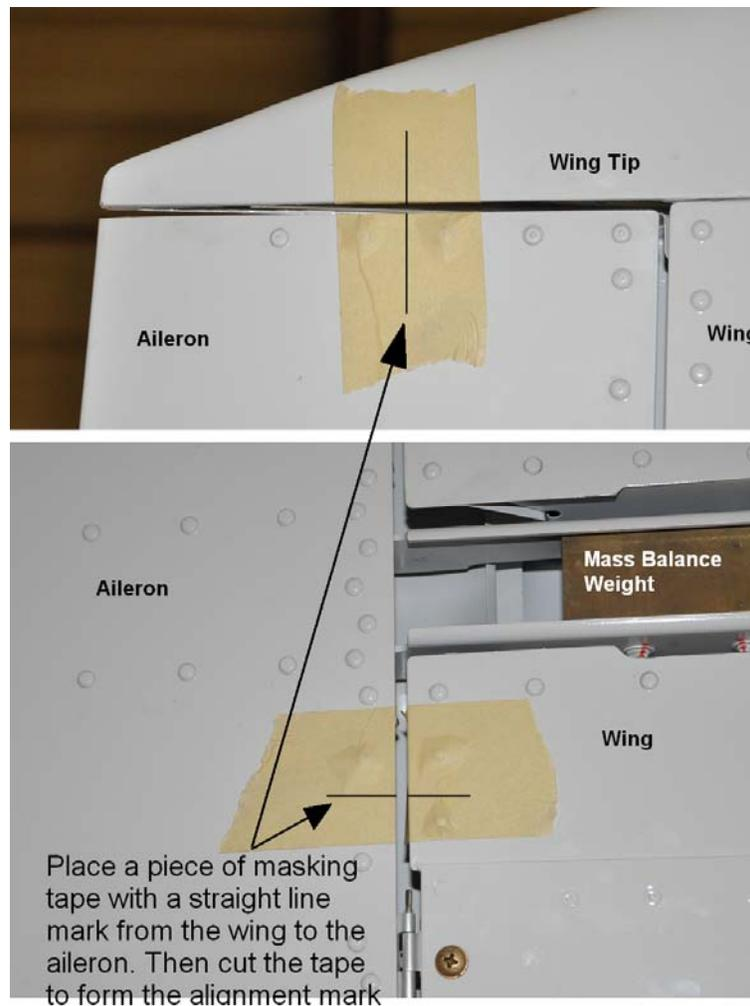

Figure 27-3 Alignment Marks Using Masking Tape
2. Temporarily mark (using masking tape) on the aileron and on the aileron hinge, alignment marks such that when installing the aileron, the aileron will be in the same position, see Figure 27-3. If installing a different aileron, contact Liberty Aerospace, Inc. Customer Service.